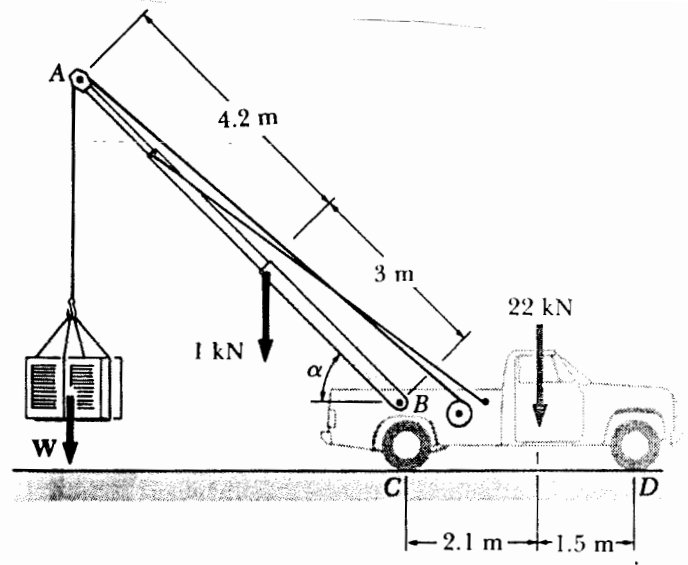

Fig. P2
- 2) A truck-mounted crane is used to lift a 3-kN compressor as shown in Fig. P2. The weights of the boom AB and of the truck are as shown, and the angle of the boom forms with the horizontal is $\alpha = 40^\circ$. Determine the reaction at each of the two rear wheels C and the front wheels D. [Secs. 5.1-5.4] (20 pts.)